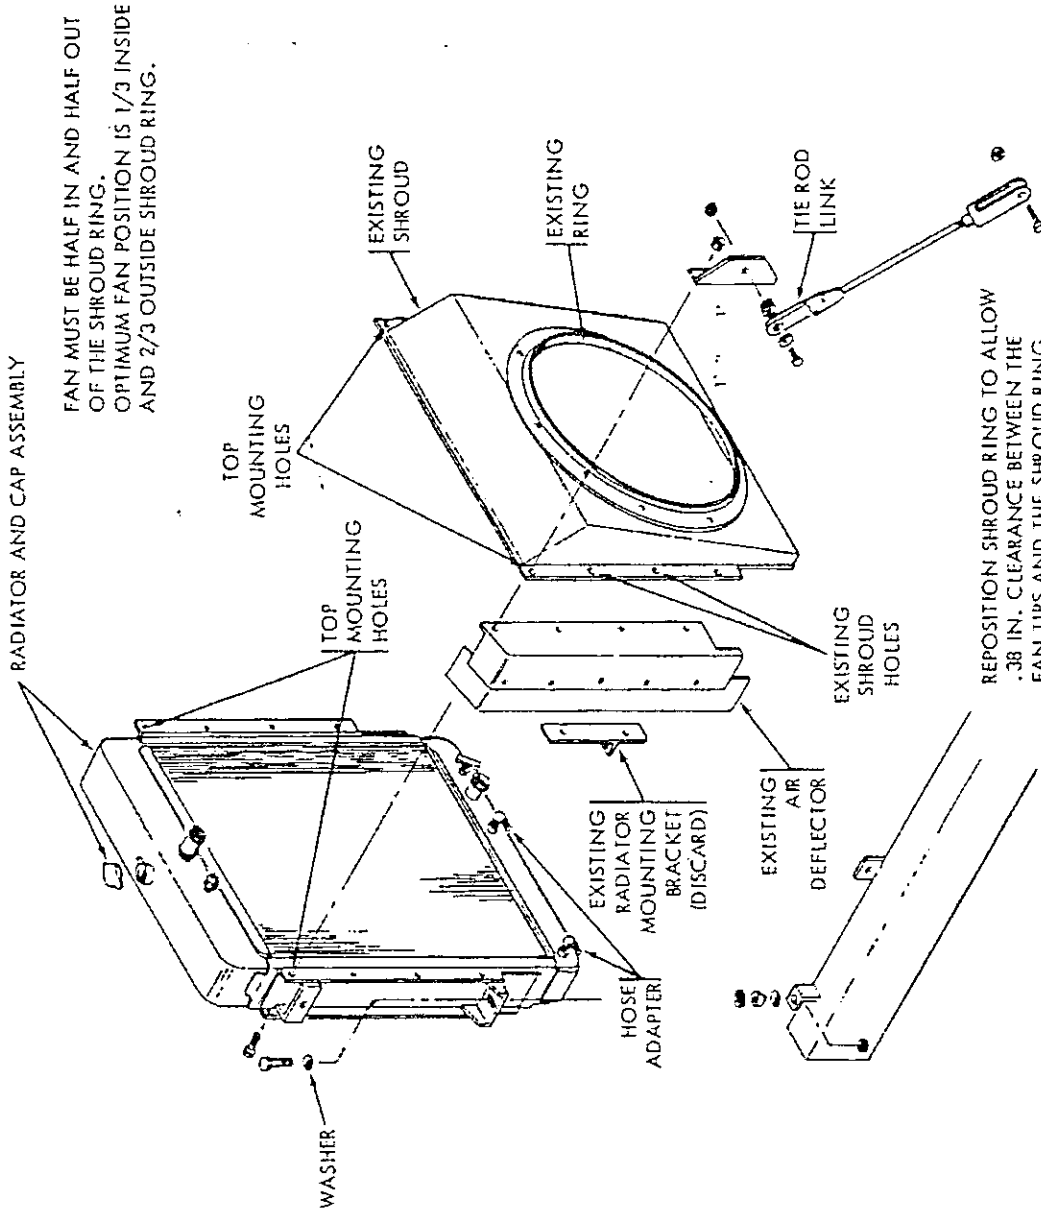

FIGURE 2
<p>B. Coaches 00600 to 00964, See Figure 2</p>	<p>00600 to 00964 Kit 5109232)</p>
<p>3. Discard the existing radiator to frame mounting bracket (Figure 2).</p>
11. Install radiator and shroud assembly in coach using two washers (5100570-02) on mounting bolts and tighten all bolts to proper torque as listed in Group 13 of Transit Service Manual. 12. Check fan tip to shroud clearance per Figure 2.	Cooling